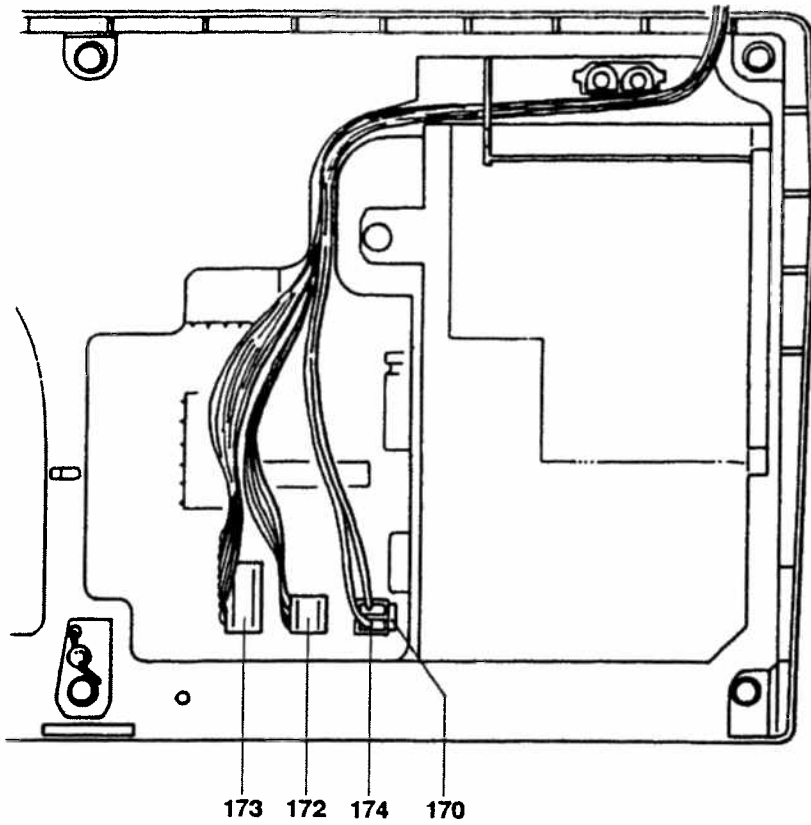

Fig. 39
- Remove plugs 172 and 173 from the circuit board (fig. 39).